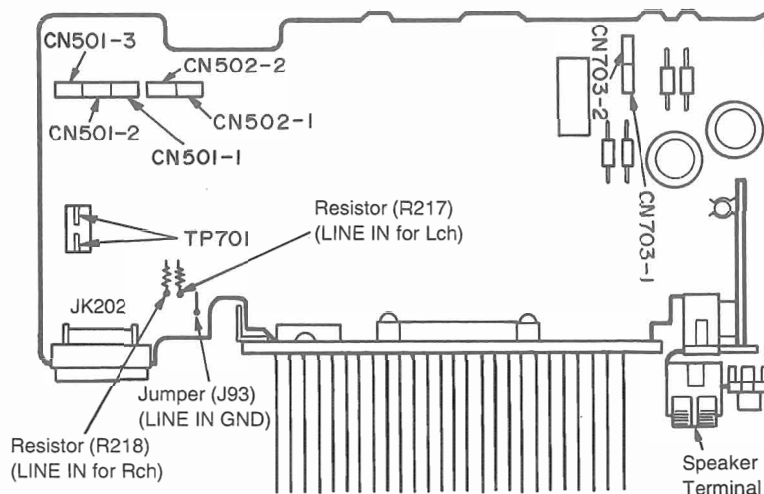

Fig. 1
Procedure 1→8→14	 <p>1. Release 3 claws (shown in Fig. 1). 2. Put a screwdriver at the root of the fan and remove it (shown in Fig. 2). 3. Remove the cap (shown in Fig. 3). 4. Remove the motor from the fan case (shown in Fig. 4). 5. When replacing the motor, align the boss of the fan case with the hole of the motor (shown in Fig. 5).</p>
2. Make test point TP701 (**TP701**) short as shown in Fig. 1.